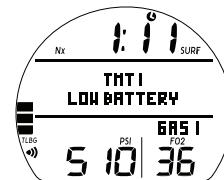

Fig. 5B - TMT LOW BATT (Alarm)
- The graphics TMTx LOW BATTERY alternate with the graphics NORM (or GAUG) and DIVE xx on the SURF Main screen (Fig. 5B).